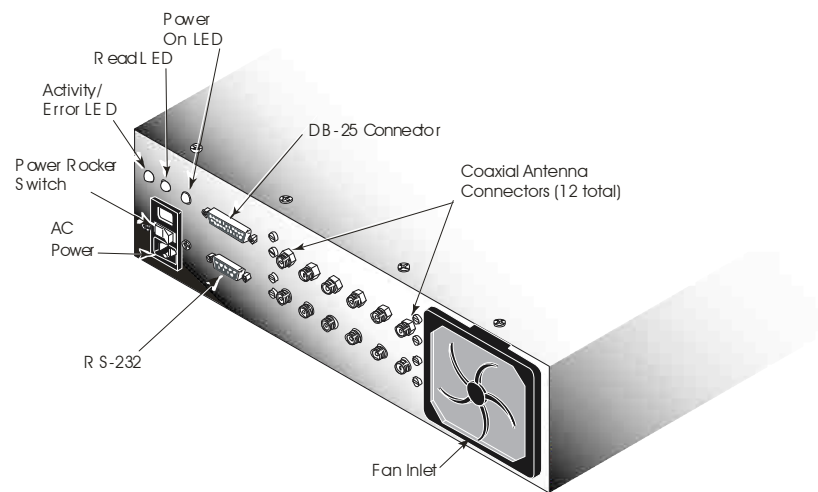

Figure 3. S556-EP InstaScan Scanner
The scanner provides the connectors and LEDs described in the following sections and shown in Figure 3.
The front panel of the S556-EP scanner has three LEDs that indicate power, activity, and transmitter ON/OFF (see Figure 3). Table 1 describes the meanings of the LEDs.
The front panel also has an On/Off switch located below the three LEDs (see Figure 3).
1. Attach the male connector on the serial cable to the 9-pin serial connector on the scanner's front panel (see Figure 3).
1. Verify that the On/Off switch on the scanner front panel is in the OFF position (see Figure 3).
2. Connect the power cord to the AC receptacle in the scanner front panel (see Figure 3).